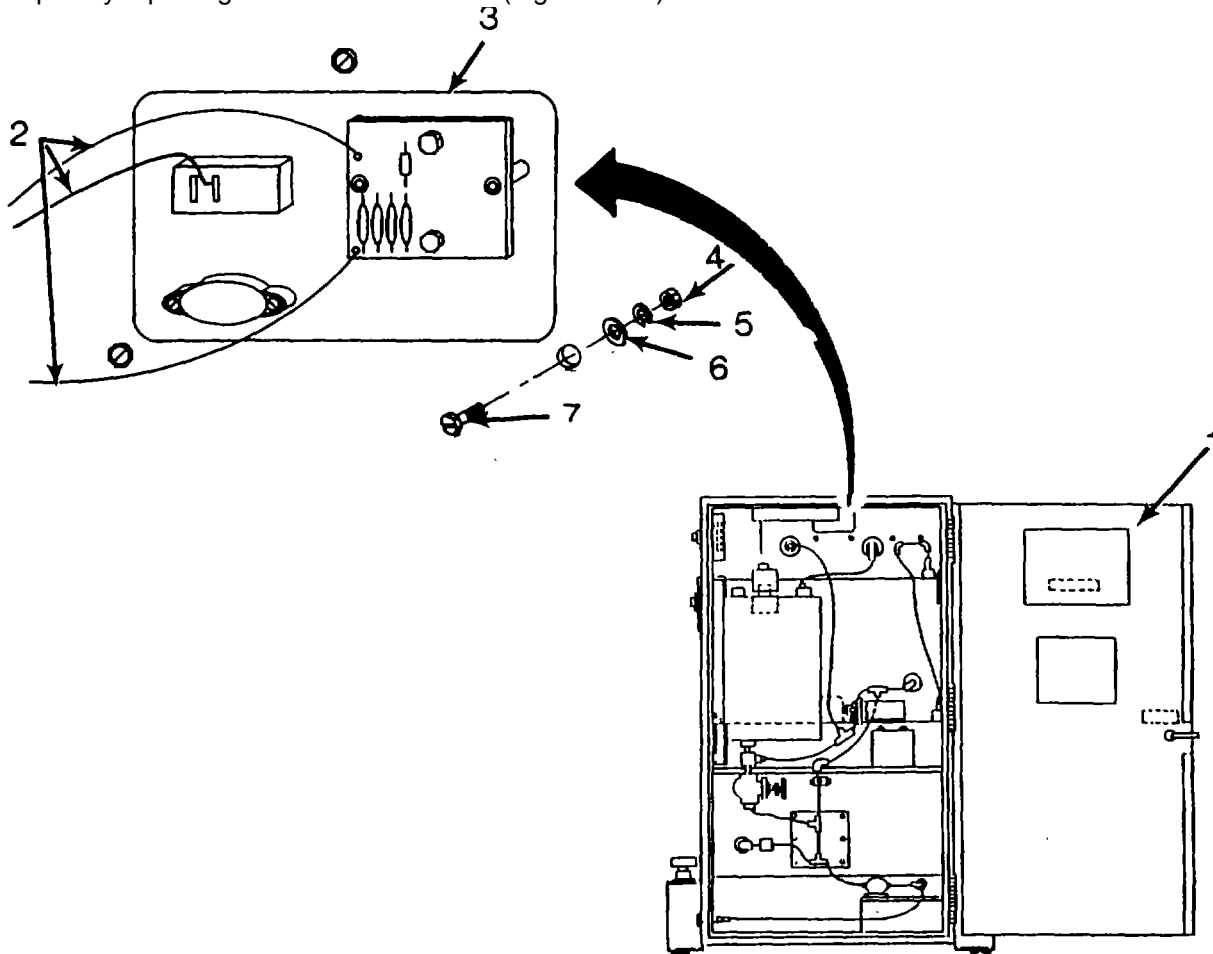

Figure 4-25. Replace Water Level Monitor
- i. Repair by replacing Water Level Monitor. (Figure 4-25.)